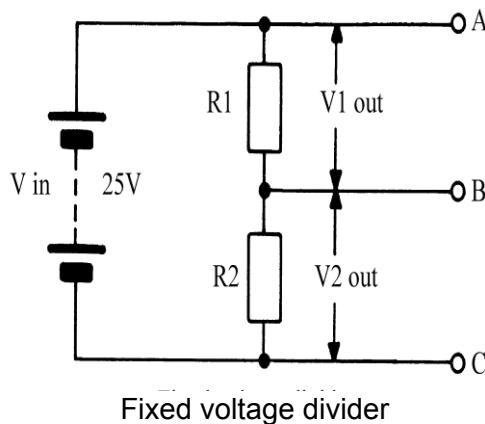

Figure 15
9. The voltage divider (see fig. 15)
Assume that in Fig. 15 the applied voltage (VIN) is 25 volts DC and that the values of R1 and R2 are 100 and 150 ohms respectively. The total resistance for this circuit is $100 + 150 = 250$ ohms respectively. The circuit voltage is 25 volts. Consequently, Ohm's law can be used to calculate current.